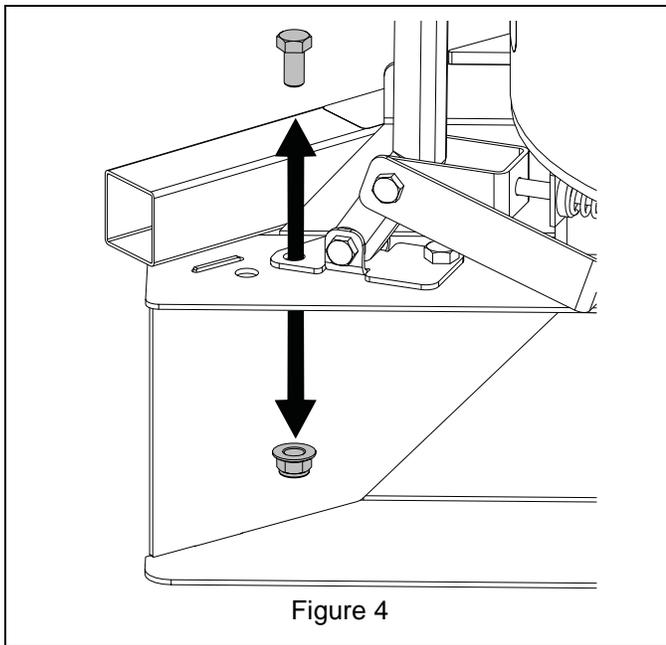

Figure 4
1. Remove and discard front hex bolt and nylon locking flange nut from the idler. See Figure 4.